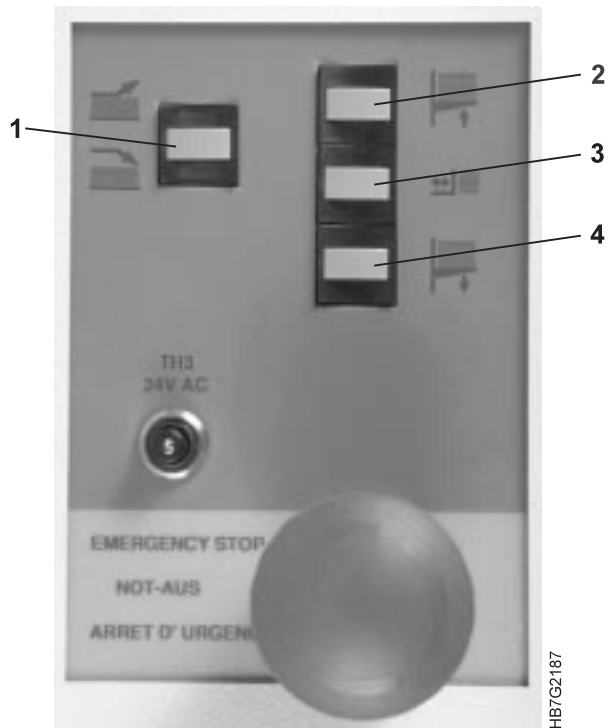

Figure 147. Output Stacker Keyboard
**Note:** Figure 147 on page 222 shows numbered buttons.